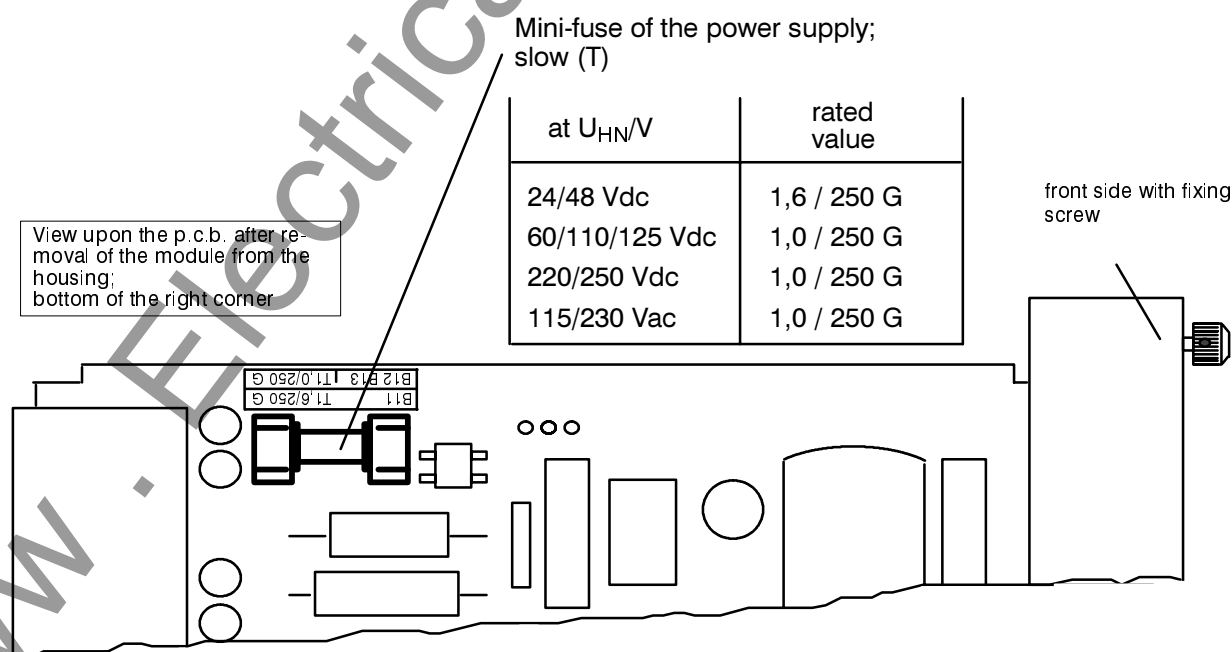

Figure 7.1 Mini-fuse of the power supply
- Has the mini-fuse in the power supply section blown (see Figure 7.1)? If appropriate, replace the fuse according to Section 7.2.1.
- Select a replacement fuse  $5 \times 20$  mm. Ensure that the rated value, time lag (slow) and code letters are correct. (Figure 7.1).
- Remove blown fuse from the holder (Figure 7.1).
- Fit new fuse into the holder (Figure 7.1).